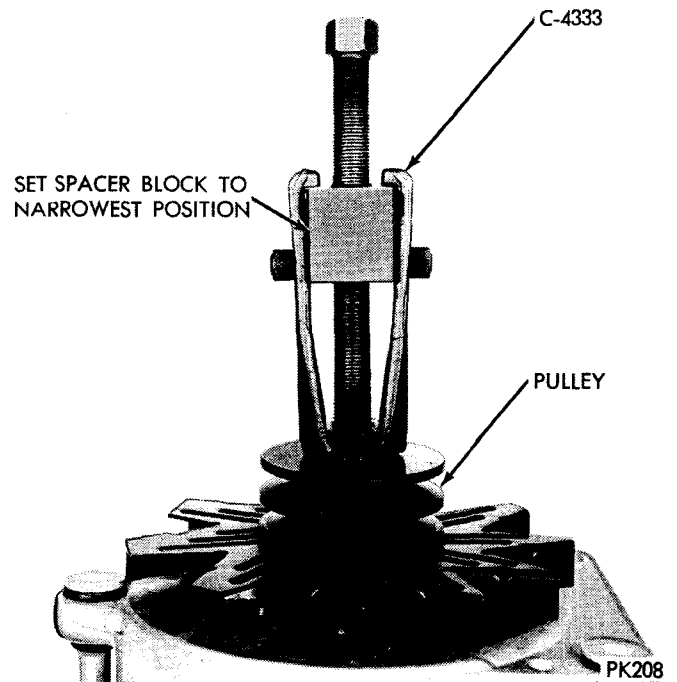

Fig. 52—Removing Pulley
(1) The pulley is an interference fit on rotor shaft. Remove pulley with Puller Tool C-4333. Position spacer block of tool in narrowest position as shown in Figure 52.